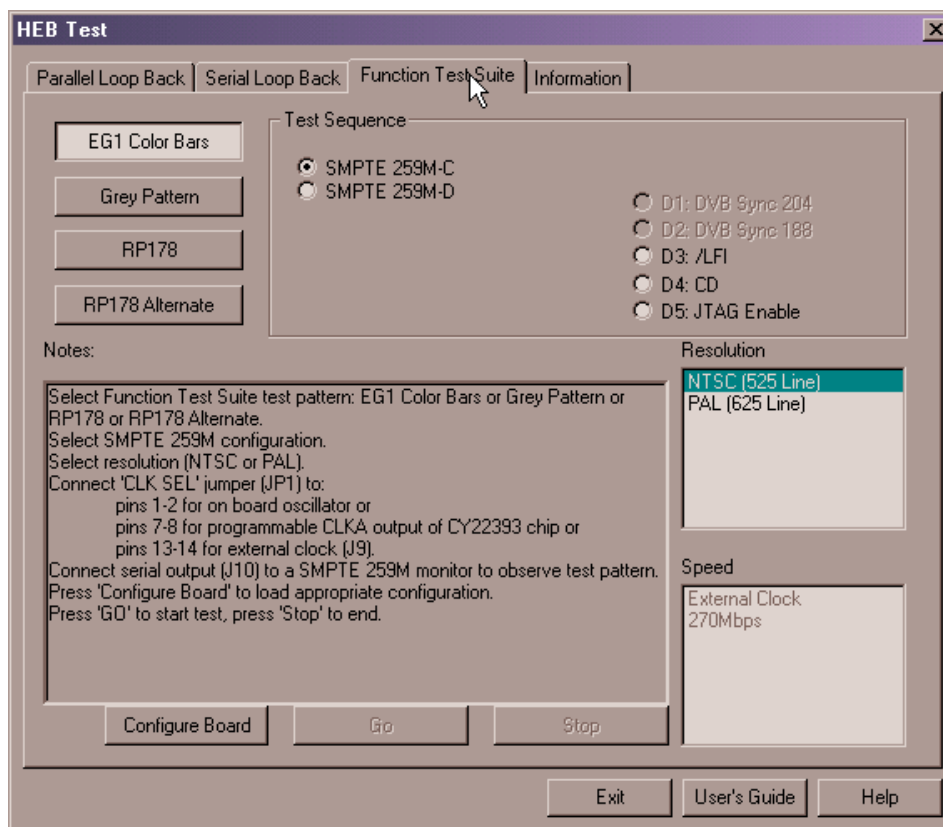

Figure 5-10. Functional Test Suite Test Window
The Delta39K CPLD is programmed through the USB Micro-controller with the Functional Test Suite. Different data patterns, depending on which test is selected, are generated by the state machines in the CPLD. The pattern generated is then SMPTE scrambled in the CPLD, serialized by the HOTLink II transmitter, converted back to analog form by the D/A converter, and displayed on the monitor. The GUI test window for this test is shown in *Figure 5-10*.
- Click on the "Function Test Suite" tab on the GUI test window. *Figure 5-10* shows the "Function Test Suite" test tab selected and the EG1 Color Bars button pressed. Please note that for this test, the board need only be configured once at the beginning. To change the pattern